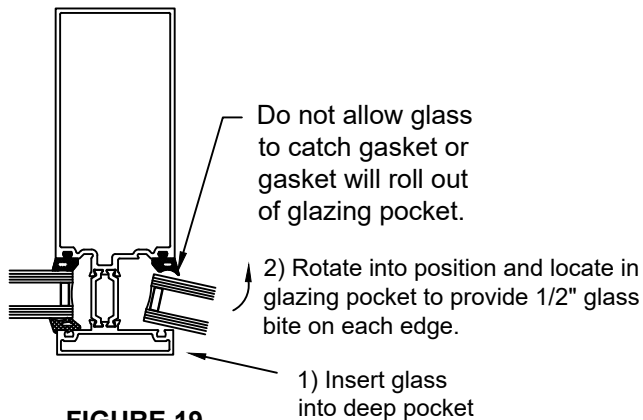

FIGURE 19
- 3.5 Set glass in opening from the exterior. When using Type I vertical mullions, place one edge of the glass into the deep pocket of the vertical. Swing the glass into the adjacent vertical pocket, ensuring that the glass bite is equal on all sides. **See FIGURE 19.**